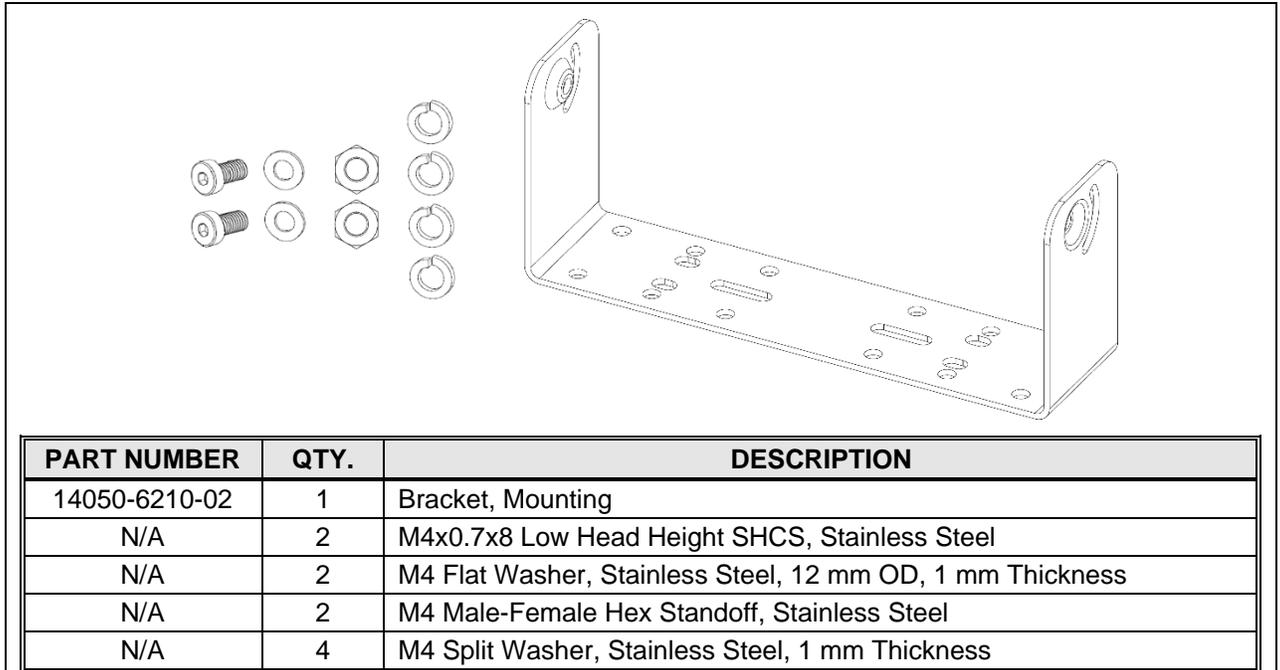

Figure 9-8: XL-CH Mounting Bracket Kit 14050-6210-01
1. Obtain the mounting bracket from the respective installation kit, as illustrated in Figure 9-8.